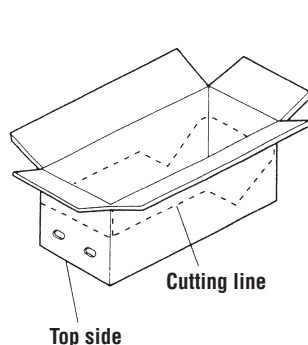

Figure 6-1
3. Place carton upside down as shown in Figure 6-1.